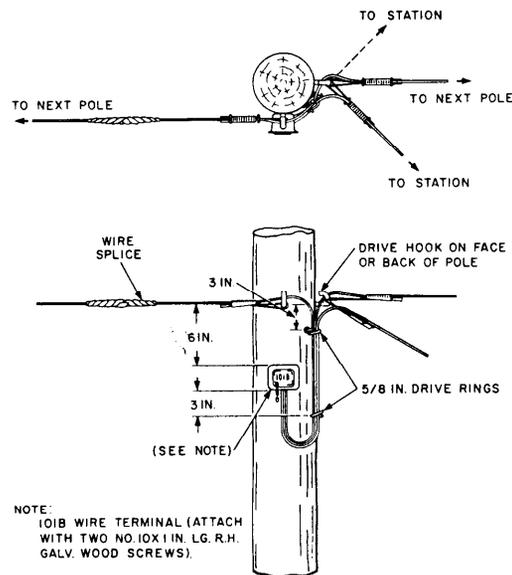

Fig. 8 - Completed Party Line Tap
- (3) After testing to make sure the line is not in use, cut the through drop wire about 2 feet from the first drive hook. The drop wire puller can be used to hold the wire before the cut is made.
- (4) Splice a piece of drop wire to the short end of the through drop wire supported by the drop wire puller. Install a drop wire clamp on the spliced wire and place it on the new drive hook on the face or back of the pole.
- (5) Place drive rings on pole and run the wire through them and terminate the two ends of the through drop wire on the binding posts of the wire terminal. Terminate the bridging drop wire in the wire terminal on top of the through wire connections. The complete party line tap is illustrated in Fig. 8.
- (1) Place a 101B wire terminal on the pole and cut the existing subscriber circuit into it.
- (2) Terminate the drop wire extension in the 101B wire terminal to make the bridging connection.
- (3) Splice out the existing drop loop and terminate it in the wire terminal. The complete arrangements are similar to those shown in Fig. 8.